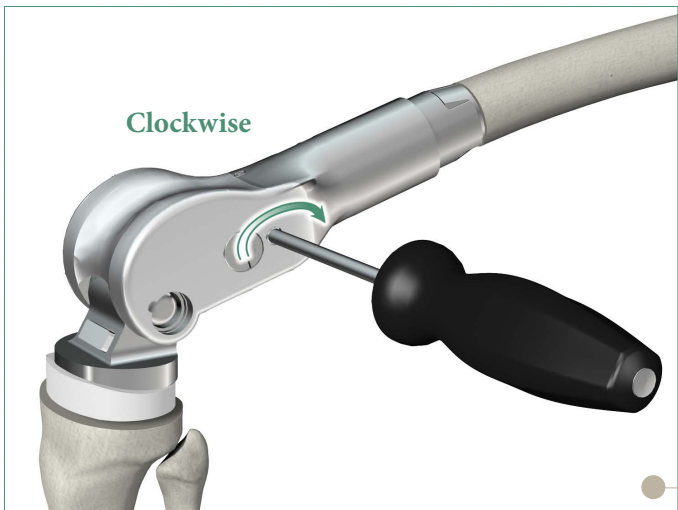

Figure 33
- Ensure that the device is locked prior to closure. Insert the smaller hex screwdriver into the locking hole and turn clock-wise (**Figure 33**). An audible click from the locking screwdriver handle will indicate that the device is locked.